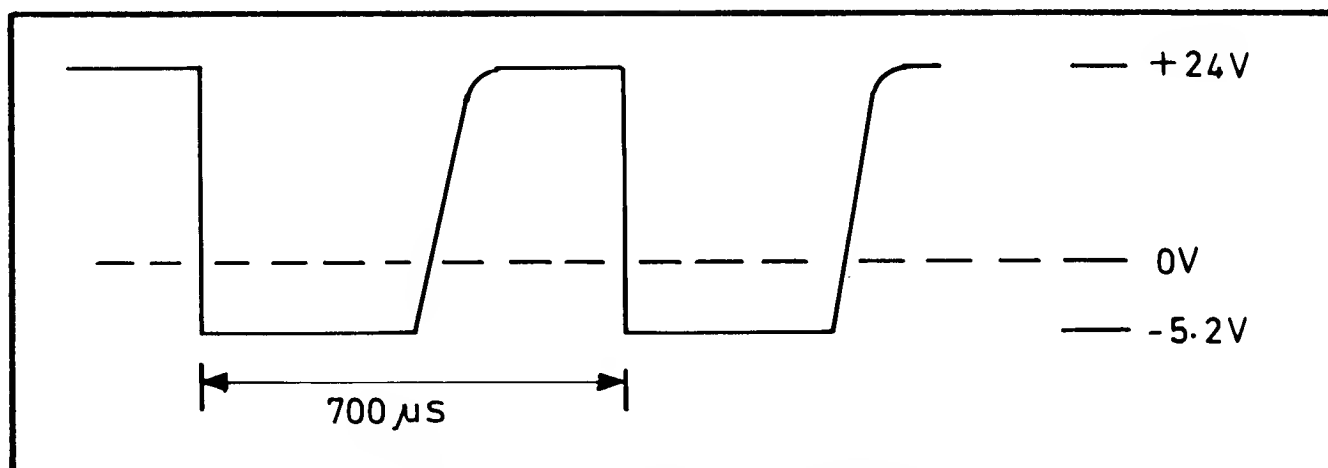

Fig. 7.15 Amplifier Control Waveform
7.7.5.8.1 Connect the oscilloscope to monitor the waveform at pin 14 of PL5 on assembly 19-1043. Activate special function 34 and check that the waveform shown in Fig. 7.15 is obtained. Disconnect the oscilloscope.